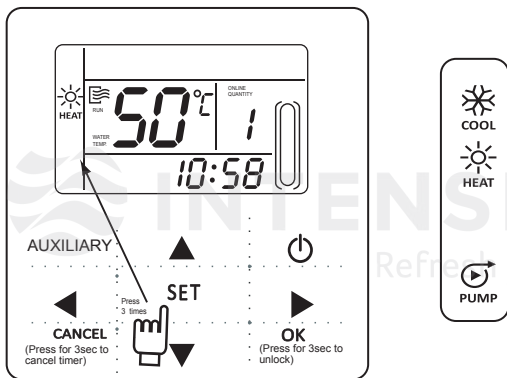

Fig.4-8
Press "SET" key 3 times to enter the working mode setting when the main unit is off power. press the "▲" or "▼" key to adjust , press "OK" key or wait for 7 seconds to be effective, and back to the main page; During setting process to press "Cancel" key then will exit without saving. See fig.4-8